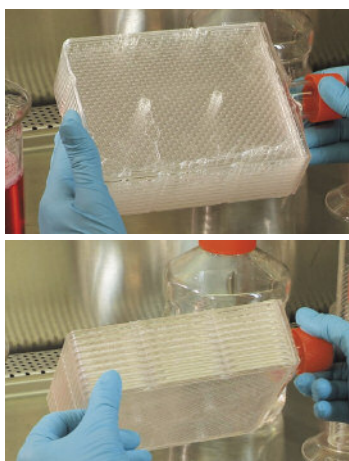

Figure 7. Rotating the flask several times back and forth will completely expose all of the cells to the rinsing or dissociating solution.
4. Gently rotate the flask back and forth 180° along its long axis several times so that the entire cell sheet in each layer is thoroughly rinsed (Figure 7).